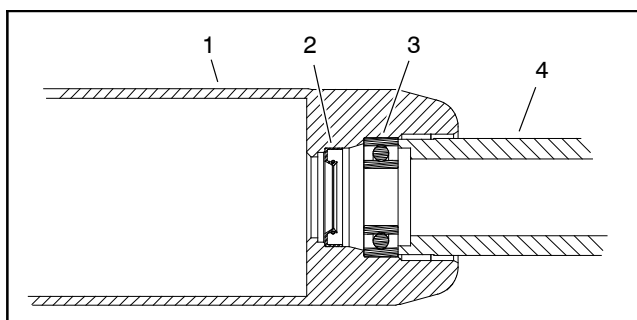

Figure 50
A. Position a new bearing into one end of roller tube. Use bearing/outer seal tool (see Special Tools in this chapter) with a soft face hammer to fully seat bearing against roller shoulder (Fig. 50). After bearing installation, make sure that it rotates freely with no binding.